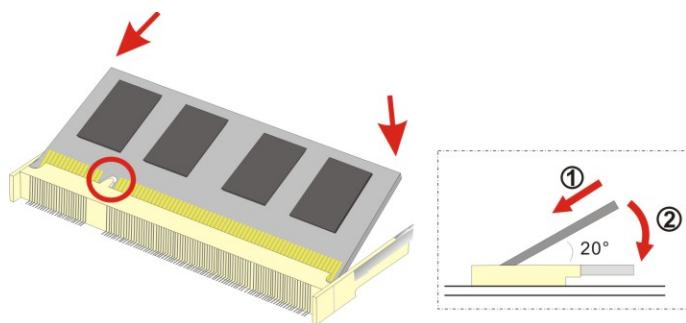

Figure 4-1: SO-DIMM Installation
To install a SO-DIMM into a SO-DIMM socket, please follow the steps below and refer to **Figure 4-1**.
Step 3: Insert the SO-DIMM. Push the SO-DIMM chip into the socket at an angle. (See Figure 4-1)
Step 4: Open the SO-DIMM socket arms. Gently pull the arms of the SO-DIMM socket out and push the rear of the SO-DIMM down. (See Figure 4-1)